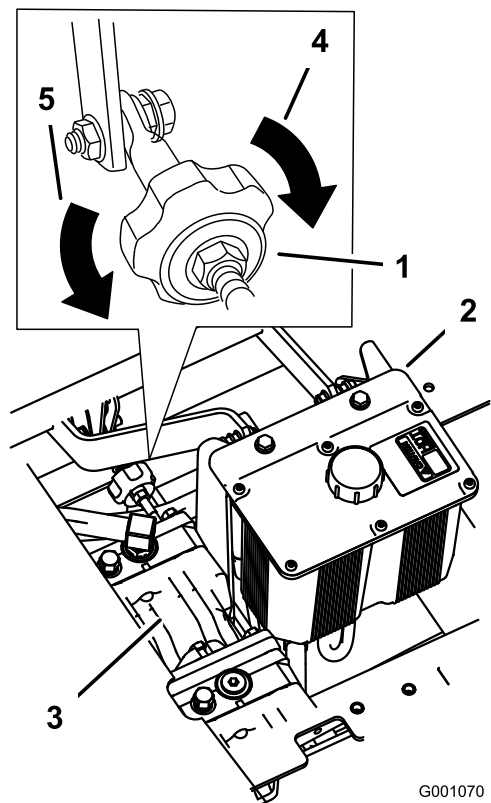

Figure 79
2. Adjust the pump rod length by rotating the knob, in the appropriate direction, until the wheel is still or slightly creeping in reverse (Figure 79).